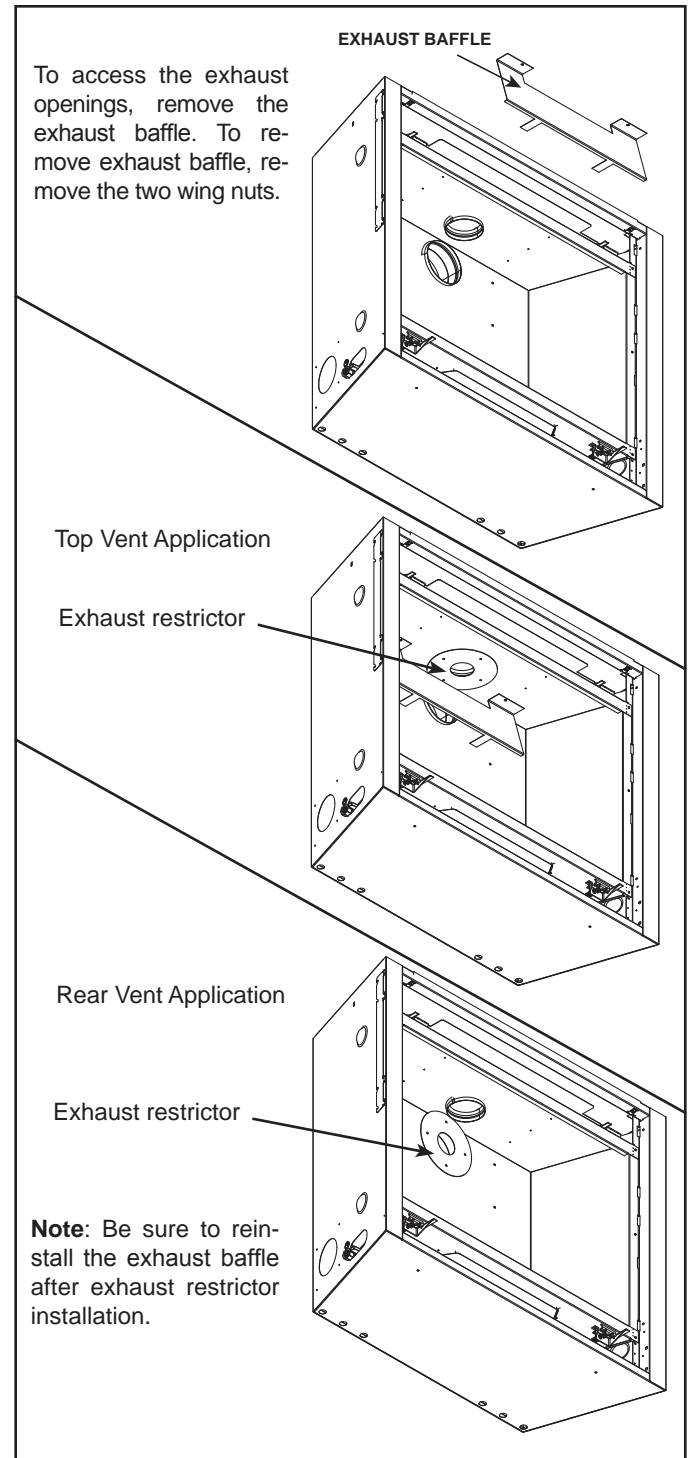

Figure 4.14
1. Install the exhaust restrictor over the center of the exhaust outlet in the firebox. See Figure 4.14.
2. Center the exhaust restrictor in the open end of the exhaust outlet and secure through the slots on the exhaust restrictor with the two (2) 1/4 in. (12 mm) self-tapping screws provided in the appliance manual bag.